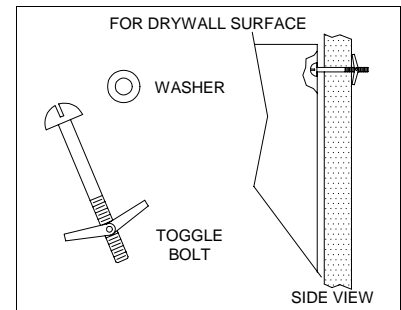

Figure 1
- (1) Choose a convenient location close to water supply and not more than 5' off floor.
- (2) Remove the cover from the unit.
- (3) Hold proportioner against wall and mark keyholes — use a level for marking holes.
- (4) Drill holes and install either toggle bolts or masonry screws (not supplied).
- (5) Hang the unit and tighten screws — see Figures 1 and 2. Always refer to hardware manufacturer's specifications for weight capacity and usage.